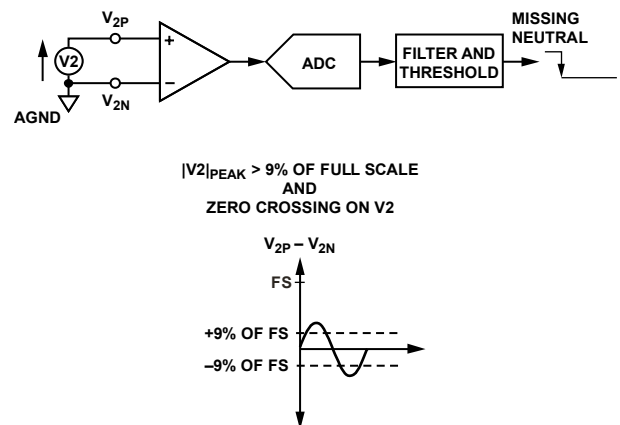

Figure 34. Return to Normal Mode after Missing Neutral Detection
**Case 1:** When the analog input  $V_{2P} - V_{2N}$  complies with the conditions described in Figure 34, CF, F1, and F2 frequencies are proportional to active power and can be used to bill active energy.
**Case 2:** When the analog input  $V_{2P} - V_{2N}$  does not comply with the conditions described in Figure 34, the ADE7761A does not measure active energy but a quantity proportional to kWh. This quantity is used to generate pulses on the same CF, F1, and F2. This situation is indicated when the FAULT pin is high.
The ADE7761A leaves the missing neutral mode for normal operation when both conditions are no longer valid, that is, a voltage peak value of greater than 9% of full scale and zero crossing on the voltage channel is detected (see Figure 34).